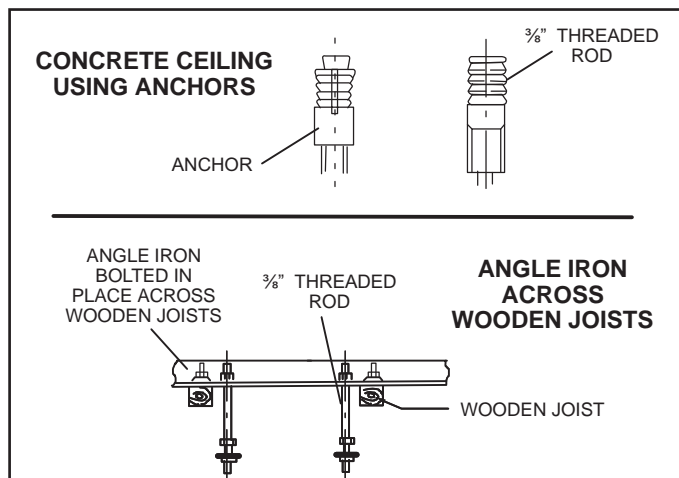

Figure 2. Suspending Methods
2. Install suspension rods in the structural ceiling or concrete slab in a suitable location. If the structural ceiling is constructed of concrete, install anchors to accept four  $\frac{3}{8}$ " threaded rods to suspend the indoor unit. If the structural ceiling includes wooden joists, use angle iron or Unistrut channel fixed securely in place to accept the  $\frac{3}{8}$ " threaded rods. **NOTE - Threaded rod (requirement of Lennox warranty program) is the ONLY acceptable method of suspending the unit; do not use chains or straps.** See Figure 2.